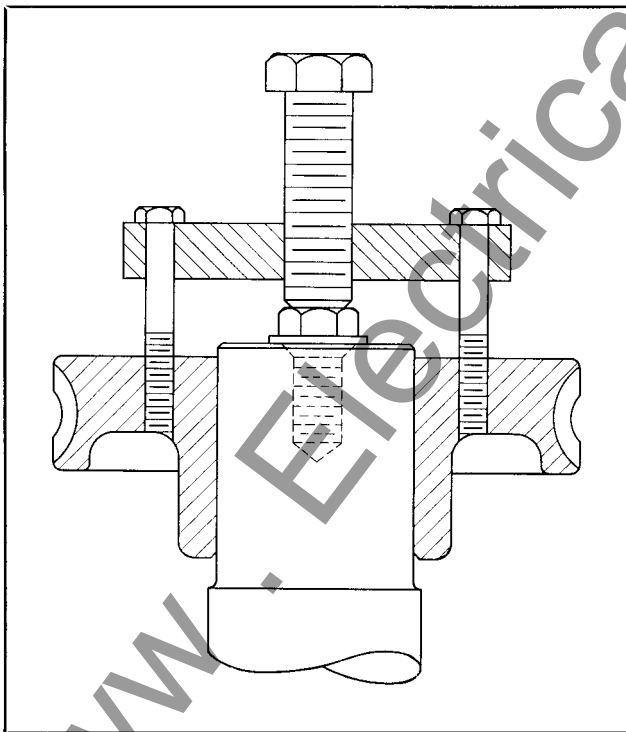

FIG. 13. Raising Worm Gear
e. Remove the worm gear with a heavy wheel-puller or as shown in Fig. 13, using suitable bolts and a bar.